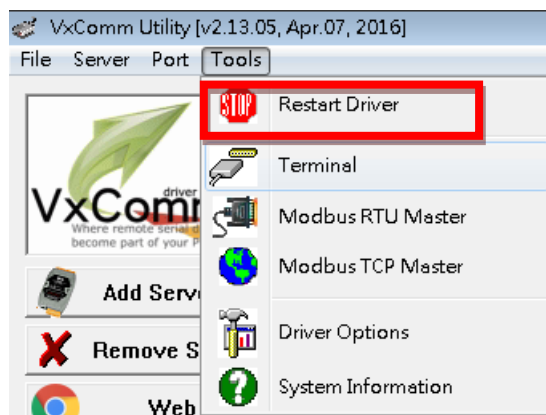
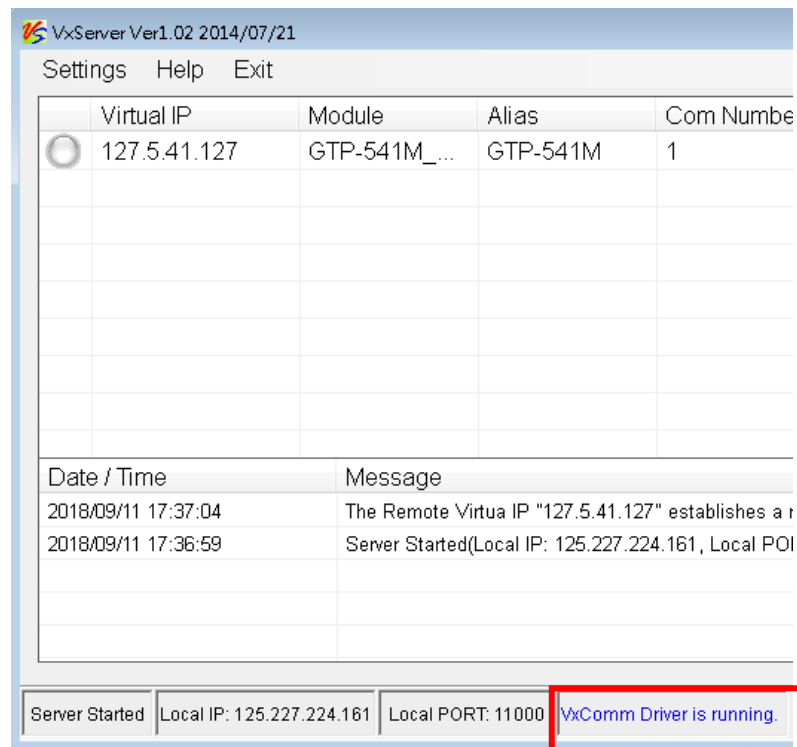

Figure 6.10.18
Figure 6.10.19
J. After the setting is completed, click the “Restart Driver” update status in the upper left toolbar “Tools” as shown in Figure 6.10.18. At this time, “VxComm Driver is running” will be displayed at the bottom of the VxServer screen as shown in Figure 6.10.19. ◦